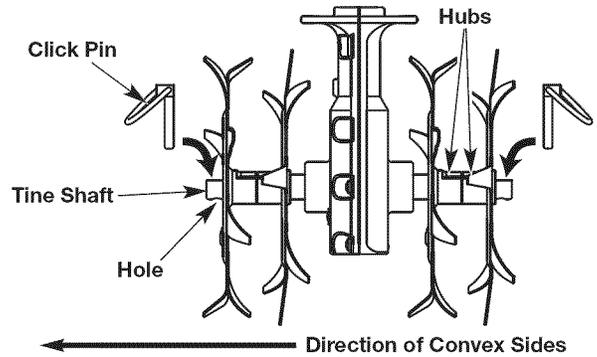

Fig. 5
3. Remove the click pins from each end of the tine shaft. Slide the tines off the tine shaft (Fig. 5).
1. Slide two tines onto one side of the tine shaft. Make sure the hubs face each other and the convex sides of the tines all face the direction shown in Figure 5.
2. Insert a click pin through the hole at the end of the tine shaft (Fig. 5). Push the click pin ring toward the tine until it clicks into place.